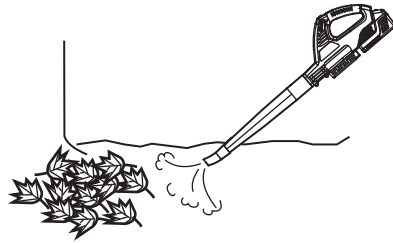

Fig. 4
- Hold the blower with the nozzle several inches above the floor or ground (Fig. 4).